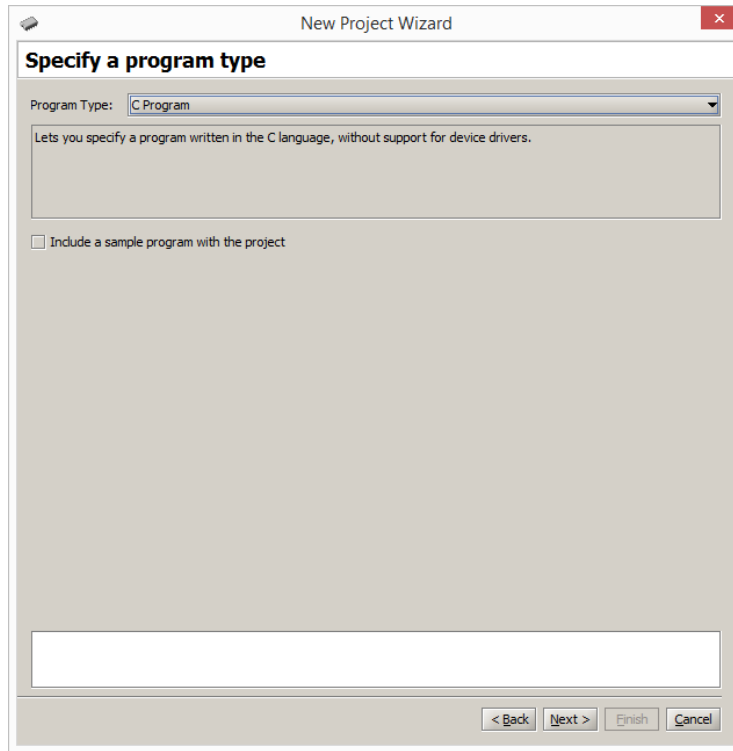
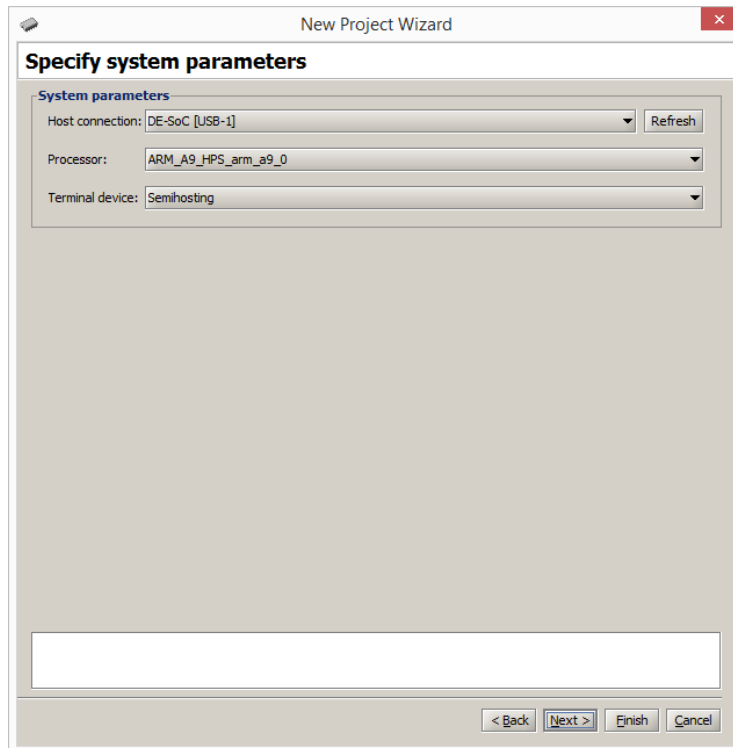

Figure 2: Setting the program type.
Figure 3: Configuring the *Terminal* window.
2. Make a new Monitor Program project for this part of the exercise. In the Monitor Program screen shown in Figure 2 select **C Program** in the *Program Type* dropdown menu, and on the screen that follows select your *part1.c* file. In the screen of Figure 3 set the *Terminal device* to **Semihosting**. This setting causes the output of the *printf* library function to appear in the *Terminal* window of the Monitor Program graphical user interface.